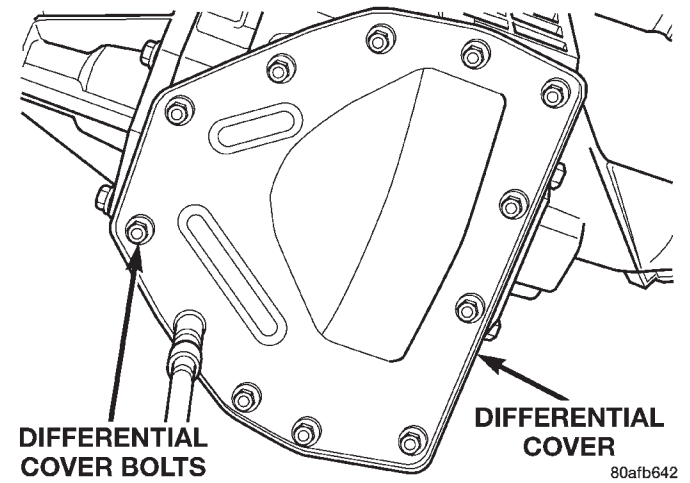
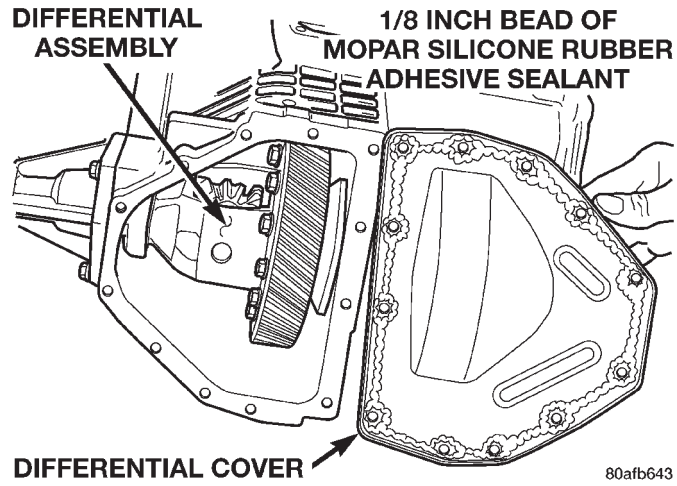

Fig. 302 Differential Cover Bolts
Fig. 303 Remove Differential Cover
- (1) Remove the differential cover and bolts (Fig. 302) (Fig. 303).